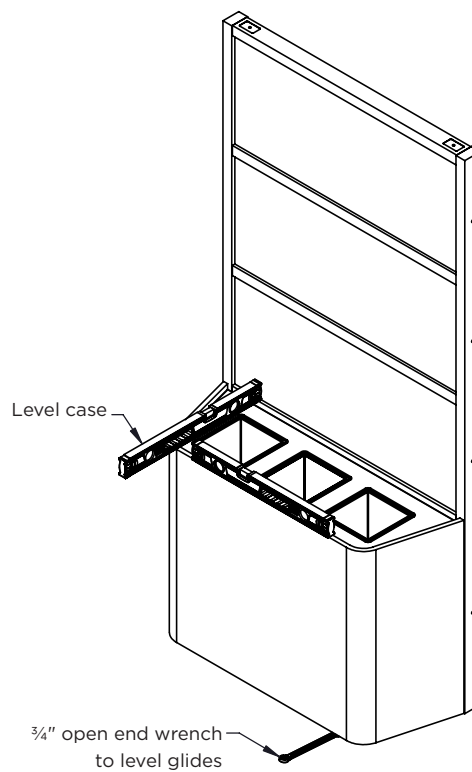

Figure 4A
1. Start with the middle unit in the ganging series. Position in the final install location and level unit with the glides. A $\frac{3}{4}$ " open end wrench can be used to adjust the glide. (**Figure 4A**)